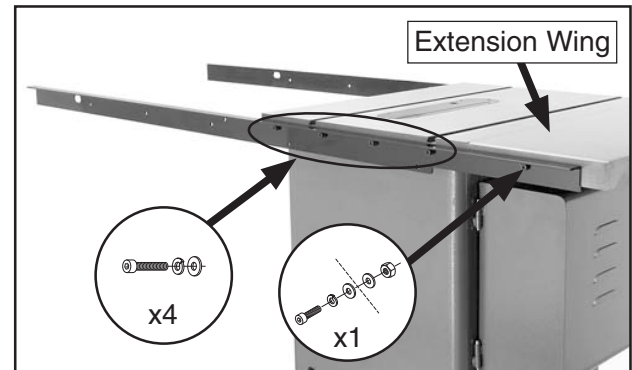

Figure 24. Rear rail installed (Model G0605X1 shown).
3. Fasten the rear rail to the table with (4) M8-1.25 x 25 cap screws, 8mm lock washers, and 8mm flat washers, as shown in **Figure 24**.
4. Fasten the right end of the rail to the pre-installed extension wing shown in **Figure 24** with (1) M8-1.25 x 25 cap screw, (2) 8mm lock washers, (1) 8mm flat washer, and (1) M8-1.25 hex nut.